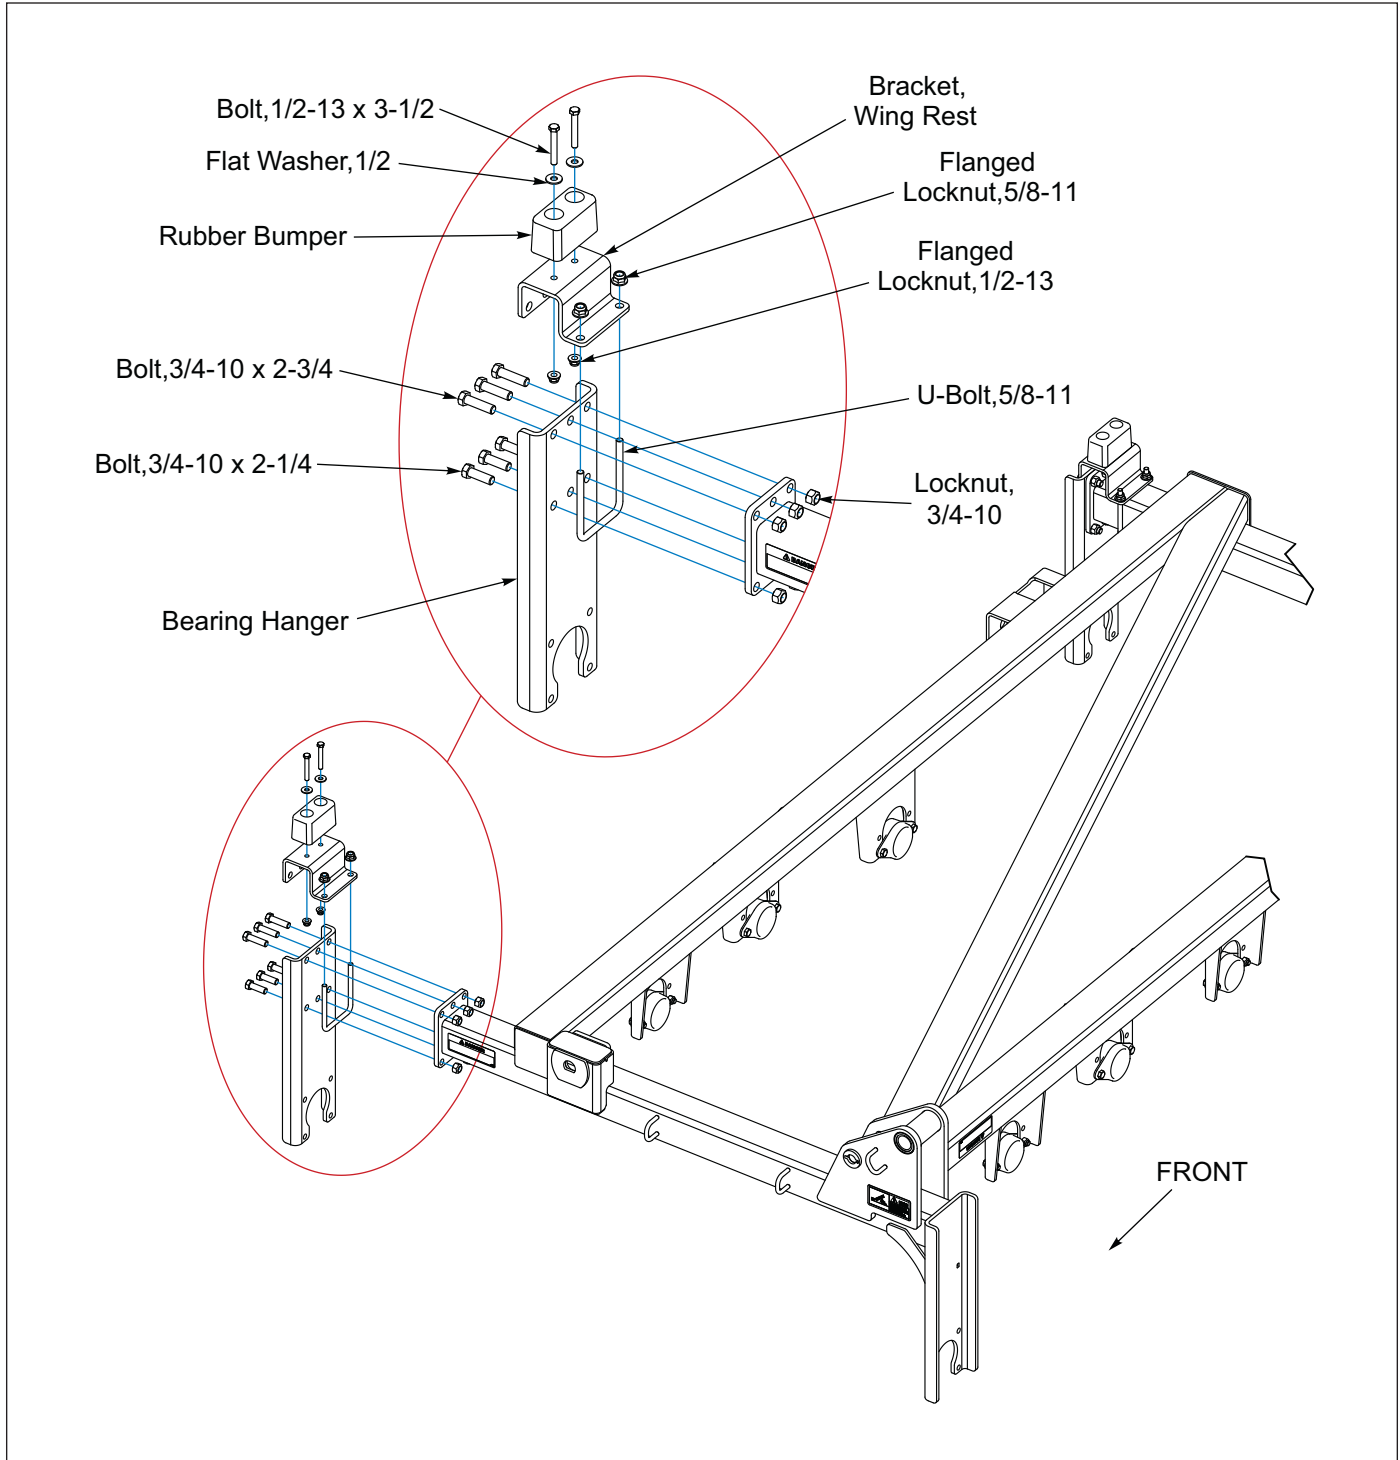

Figure 2-42: Wing Rest and Bearing Hanger
1. Assemble a Rubber Bumper onto each Wing Rest Bracket with 1/2-13 x 3-1/2 Bolts, Flat Washers, and Locknuts. **See Figure 2-42.**